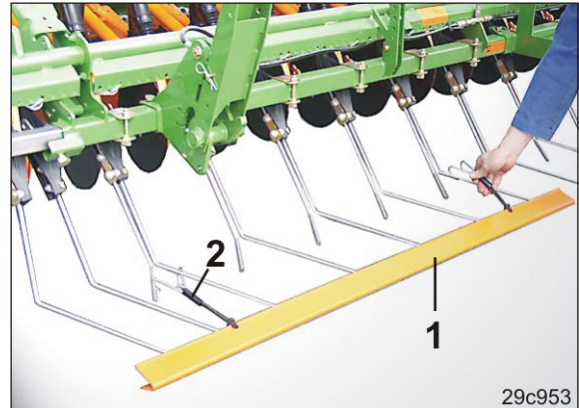

Fig. 214
1. Push the two-part road safety bar (Fig. 214/1) over the tine tips of the exact following harrow.
2. Fasten the road safety bar with spring holders (Fig. 214/2) to the exact following harrow.